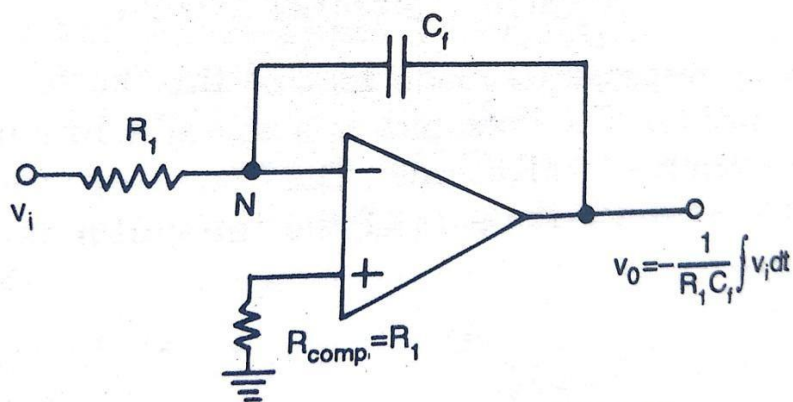

Fig. 4.23 (a) Op-amp integrator
- By interchanging the resistor and capacitor of the Differentiator, we get the circuit of an integrator which is shown in the figure 4.23(a).